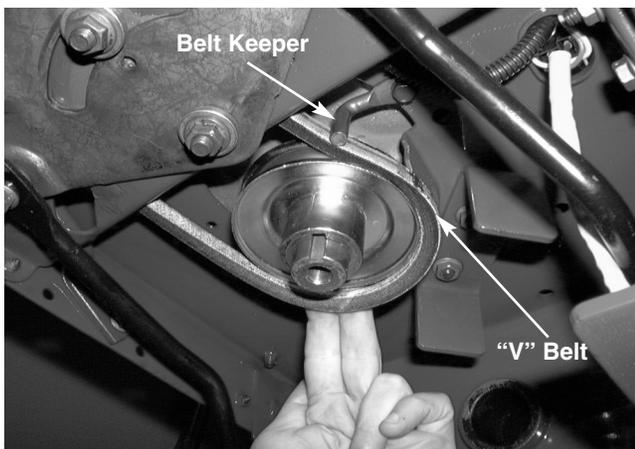

**FIGURE 5.**
**NOTE:** The order of the hardware is as follows: hex bolt, lock washer, spacer, and stepped spacer. See figure 5.